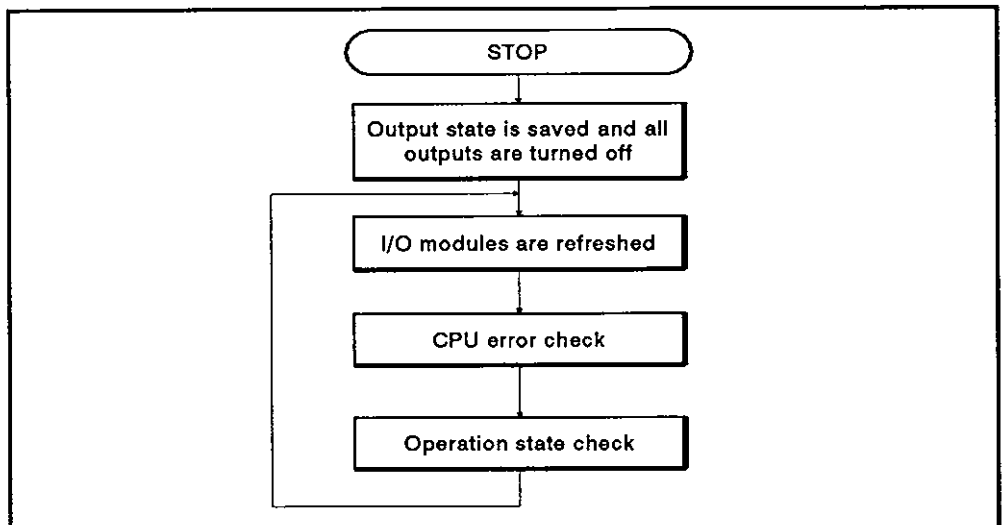

Fig. 4.9 STOP Operation Processing
- (2) STOP operation processing
- (b) When the PC CPU enters the stop state, it saves the output statuses before turning off all outputs (Y). Note that the status of devices other than the outputs (Y) is retained.
- (c) In the STOP state, the processing illustrated in Fig. 4.9 is repeated until the operation state is changed from STOP to RUN or PAUSE.